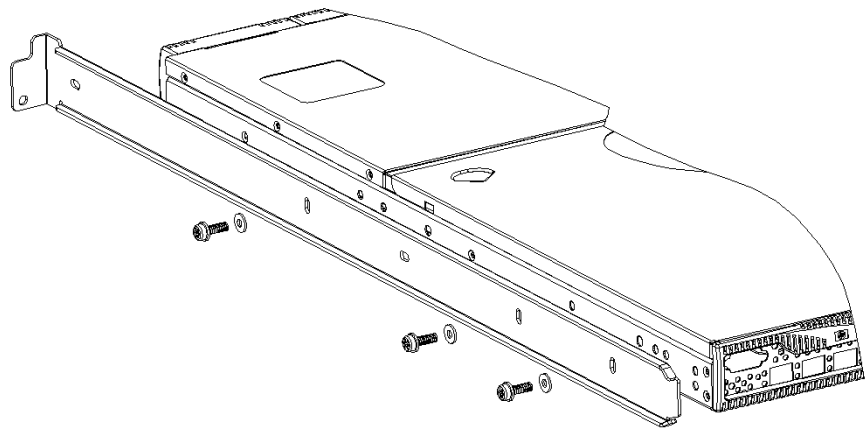

Figure 8. Assembling the Inner Rails
6. Assemble the two inner rails (one on each side) to the switch using (6) #8-32 x 5/16 Phillips pan-head screws, and #8 flat washer as shown in Figure 8.